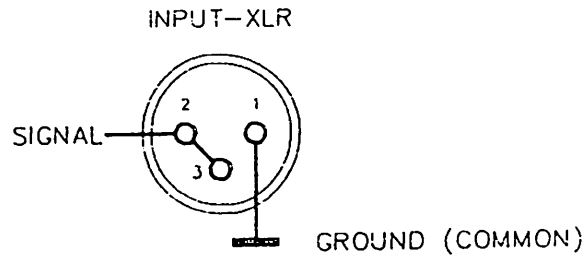

figure 2
14.02 Join Pins 2 and 3 of the input XLR together and inject a 100Hz sine-wave across Pins 2 & 3 and Pin 1 (ground). See figure 2.